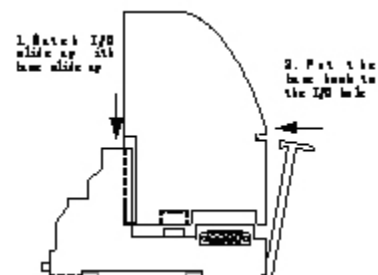

Figure 2-47 I/O Installation
3. Push the module into the base as in Figure 2-47.